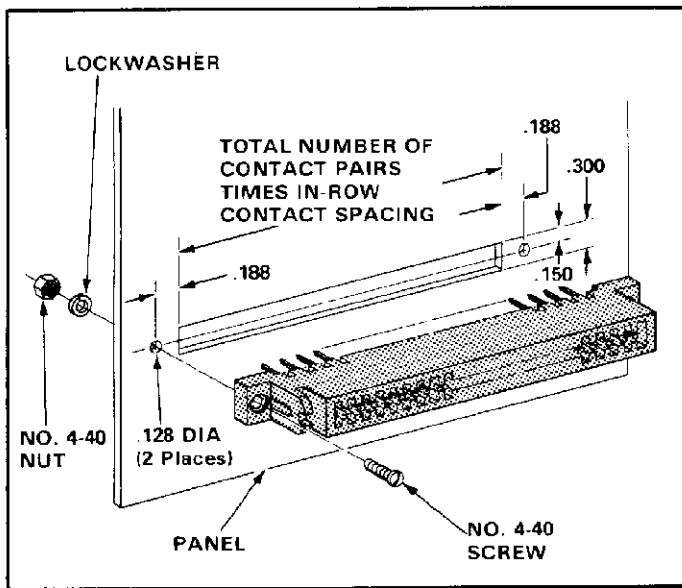

Fig. 6
- Make a layout on the panel using the dimensions provided in Figure 6.
- Position the connector on the FRONT of the panel and secure it with No. 4-40 screws, lockwashers, and nuts. See Figure 6.